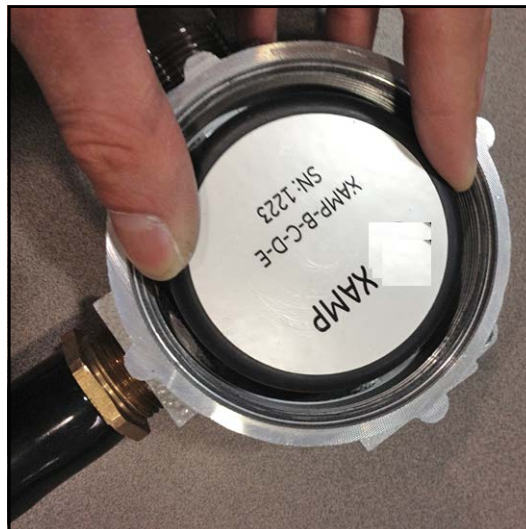

Figure 14: Junction Box Cap
8. Place the **XAMP** body into the junction box (see *Figure 14* below), resting the puck gently on the cables below it. Ensure that the cables of the **XAMP** rest naturally according to the slant at which they exit the epoxy, to reduce stress and strain on the joint. The **XAMP** should remain still, and the cap of the junction box should rotate freely around the **XAMP**.